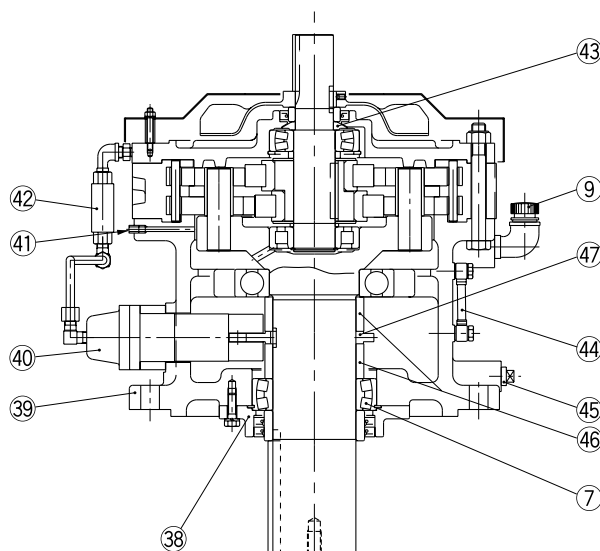

Fig. 29 Type CVV (Vertical • Reducer)
- (5) In the vertical type with a plunger pump, the roller at the extended end of the pump should be assembled so that the roller is in contact with the cam ④ (Fig. 29 on Page 30) to enable it to rotate. At that time, the position should be fixed with the UP mark on the pump at the top side (**Frame size 6205 through 6265**) or a knock pin (**Frame size 6160 through 6195**).
- (6) After assembling, confirm that there is no abnormality and test-run the unit.